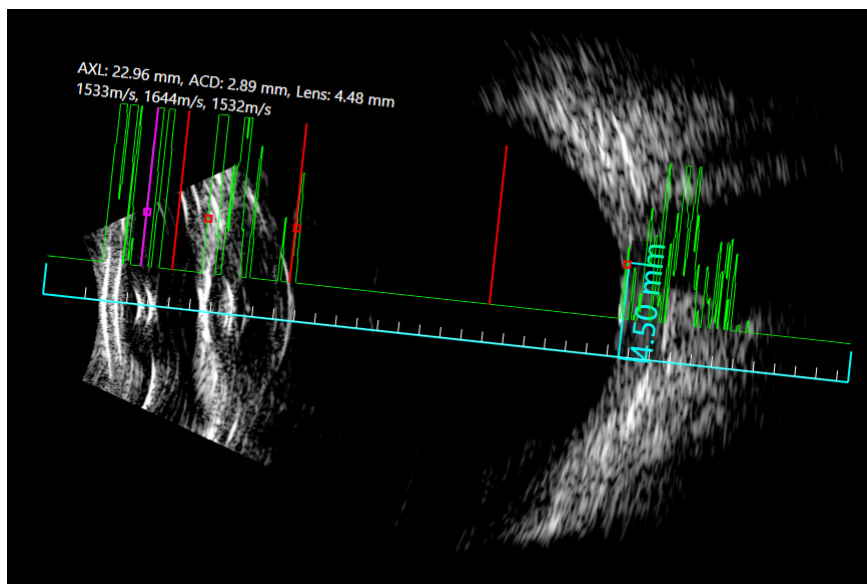

Figure 18: Biometry scan on top of B-Scan
- ⑤ The biometry scan will appear on top of the B-Scan as shown in figure 18. The four gates positioned along the axial can be adjusted independently. The entire biometry scan can be moved by dragging it from the scale area on the bottom. It can also be adjusted by dragging on the red boxes on each end of the scale. As the gates are adjusted, the axial reading will be displayed on top. The gain can be adjusted as needed to increase or decrease the spike's height.